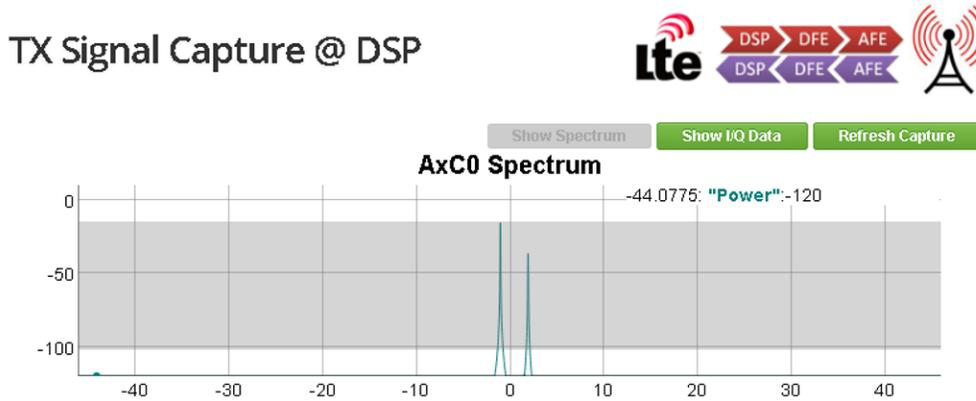
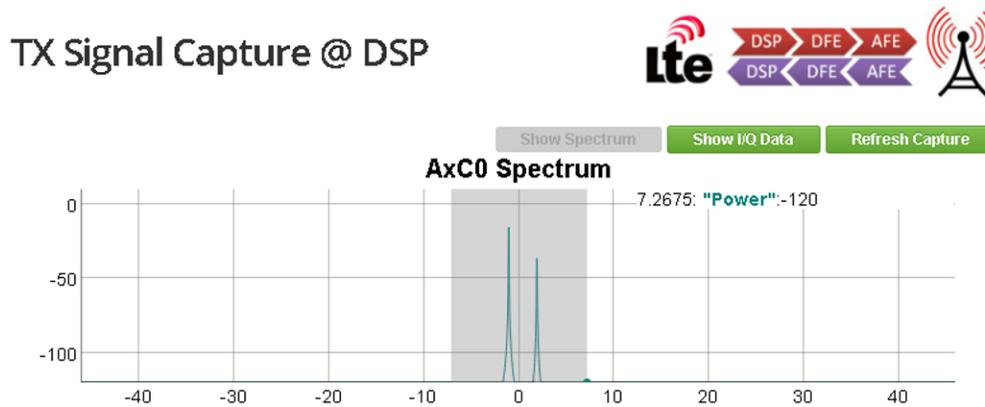

Figure 24. Changing the Amplitude Scale on the GUI
Figure 25. Changing the Frequency Scale on the GUI
14. Drag the mouse to zoom in on the graphs both vertically (to change the amplitude scale) and horizontally (to change the frequency scale). To view the zoom-in on the graphs, see Figure 24 and Figure 25.